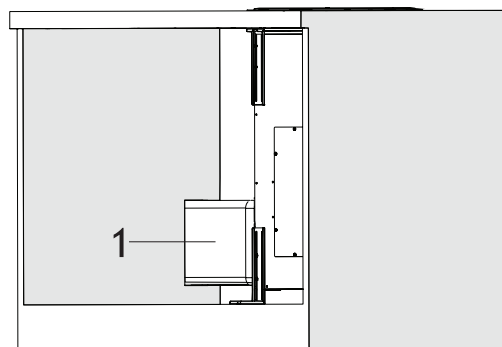

Fig. 25
13. ➔ Make air exhaust pipe connection using a suitable dimensioned rectangular pipe (Fig. 25).